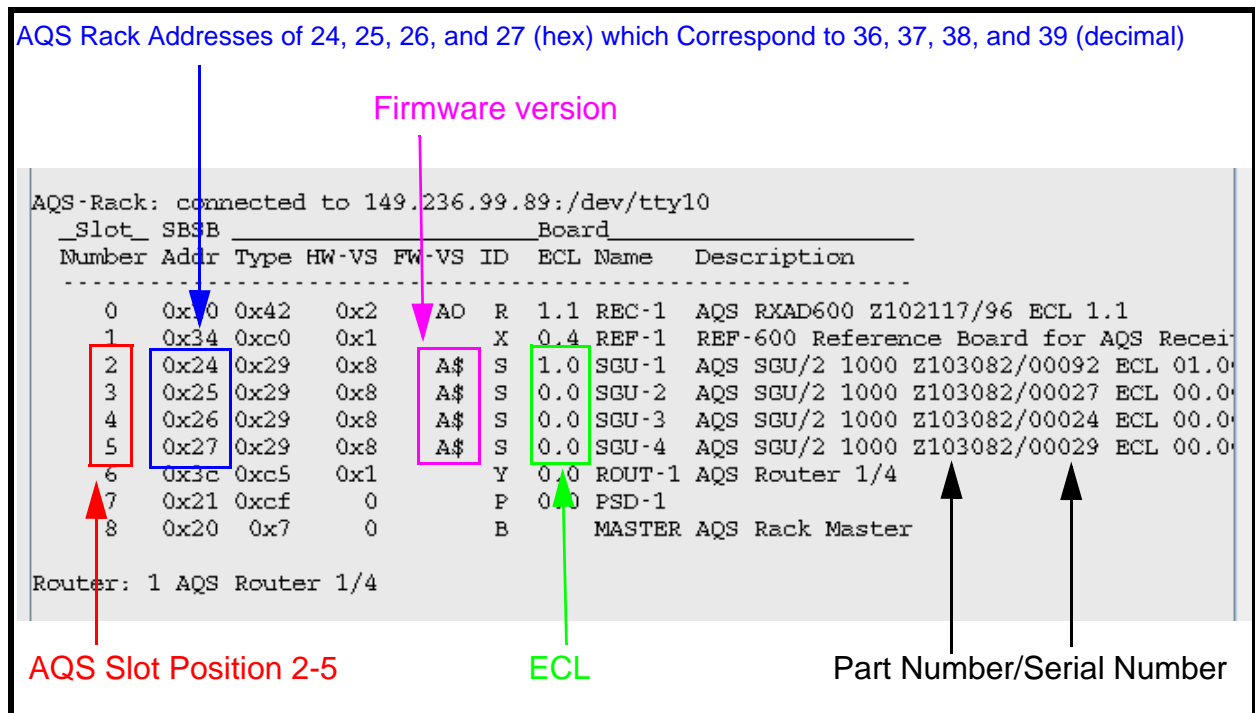

Figure 5.6. Extract from the 'uxnmr.info' File Displaying the Presence of four SGU/2s .
The number and slot location of each SGU/2 can be checked in the TOPSPIN window 'uxnmr.info' which is displayed during the 'cf' routine. (see **Figure 5.6.**) The presence of the REF unit in slot1 is displayed in this figure and the SGU/2s immediately to the right. Note also that the part number, ECL number etc. is also listed. This information can also be accessed via the Unitool program which will be discussed in sec. **5.5.1.**
- All SGU/2s are identical and as such are fully interchangeable (trained service personnel only!). If units are swapped it is advisable to reconfigure the spectrometer with the 'cf' command to ensure that there are no inconsistencies in unit recognition see Figure 5.6.